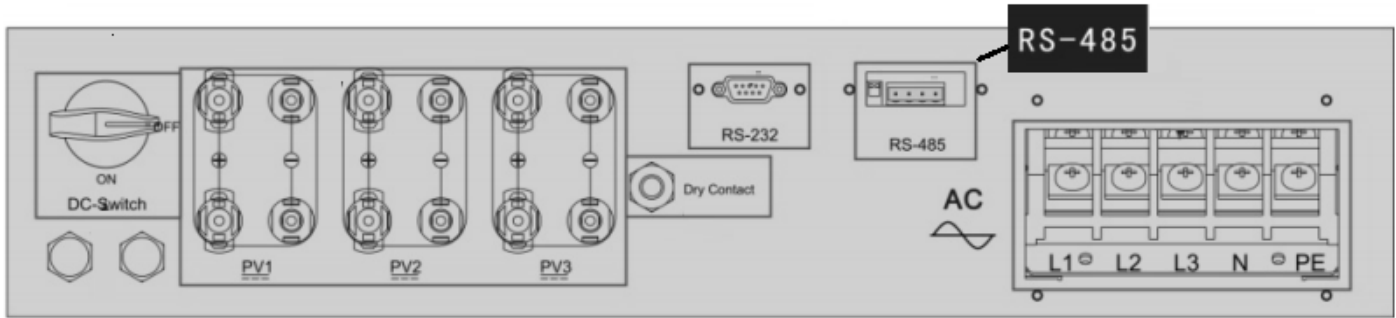

Figure K1:A- Kstar String Inverter communication port & Connections
- Please unscrew the RS485 terminal as shown in A part of Figure K1.